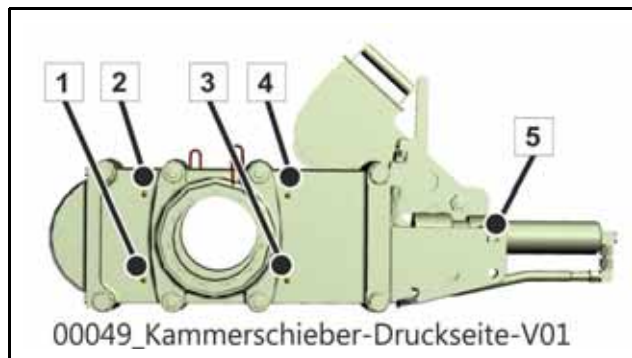
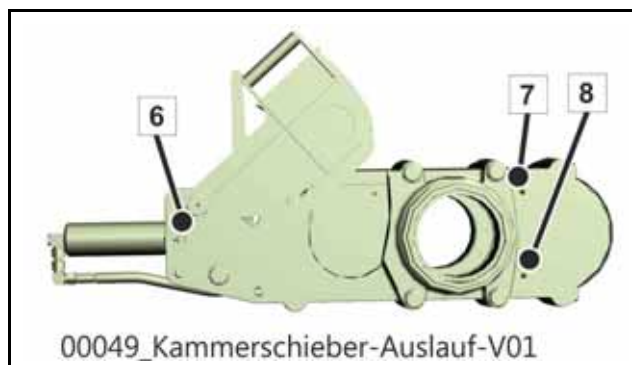

Fig. 472
Fig. 473
- Lubricate all grease nipples (pos. 1-8) (Fig. 472) (Fig. 473) on the chamber valve.